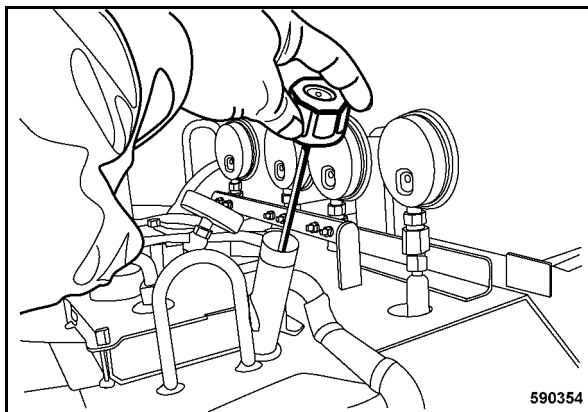

Fig. 12
- Unscrew the oil dipstick (Fig. 12) from the thermal oil tank.